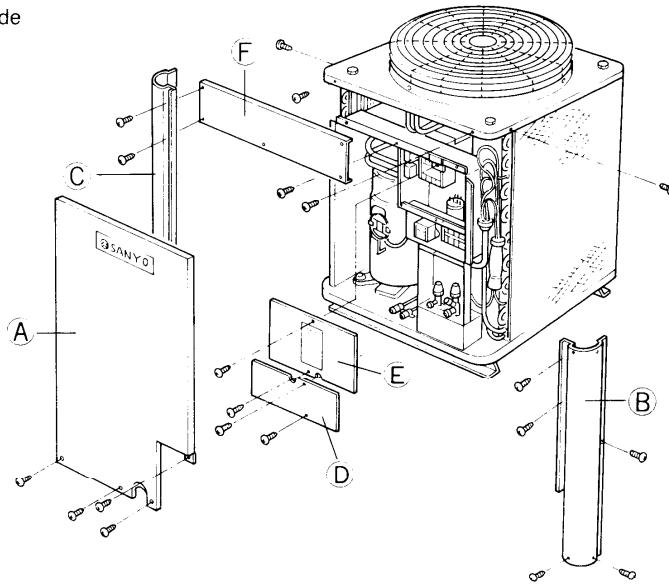

Fig. 17
- 1) As wires are to be removed at many places, refer to the electric diagram on the rear of the cover plate (E) (Fig. 17) for the removal, and at the time of reconnection after exchange of the compressor, refer to this diagram to prevent wrong connections.